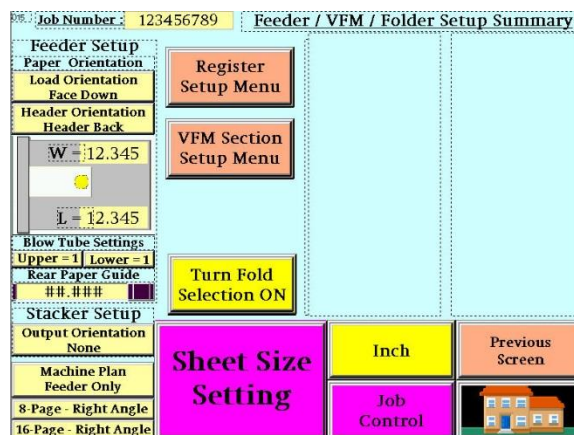

Figure 12
2. On **Setup Summary** screen without the fold selection button turned on the display show a Sheet Size Setting button toward the center of the screen. (If the center of the screen displays a **New Fold Selection**, press the **Turn Fold Selection off** button on the right side of the Setup summary screen.) See figure 12.